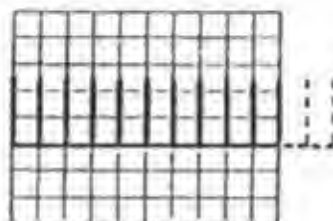

Figure 3-1.
- Adjust VR603, SWP LNTH (SC-6, horizontal board) to obtain a 13 markers on the trace as shown in Figure 3-1.